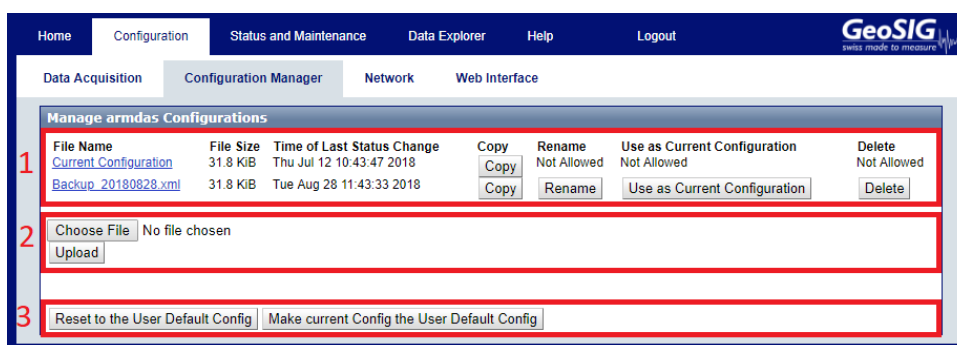

Figure 35: Configuration Manager screen
As described in the previous chapter, the *Data Acquisition* screen only allows configuring the currently used configuration. The **Configuration Manager** screen described in this chapter allows managing several configurations, changing the current configuration, uploading a new configuration and so on. As depicted in Figure 35, the screen is divided into three sections:
1. **The Configuration List:** This list contains all configurations currently available on the main storage media. The *Current Configuration* is always listed here. This configuration can be copied and downloaded but not renamed, removed or made the current configuration (as it is already the current). As depicted in Figure 35, these options become available to other configurations stored on the device (in this example after uploading a file to the device). When pressing **Use as Current Configuration** it will store this configuration as the *Current Configuration*. The existing configuration will be overwritten and the instrument restarted. Note that only the *Current Configuration* can be edited in the *Firmware* screen. The other configuration files will remain untouched. The *Current Configuration* can be saved in a file by pressing **Copy**.